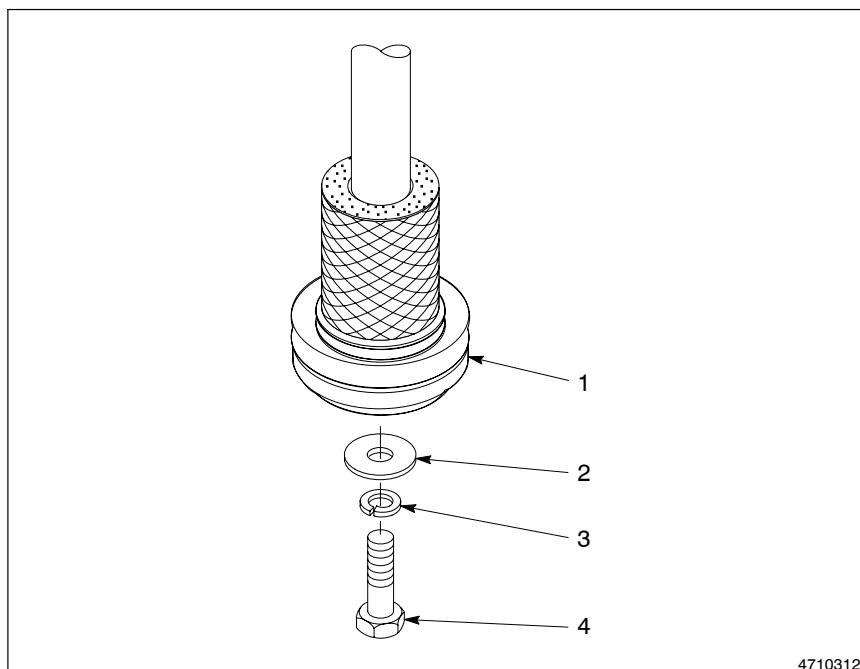

Fig. 7-45 Removing the Piston Assembly from the Shaft
3. See Figure 7-45. Remove the hex-head screw (4), washer (2), and split lockwasher (3) that secure the piston assembly (1) to the air cylinder shaft.